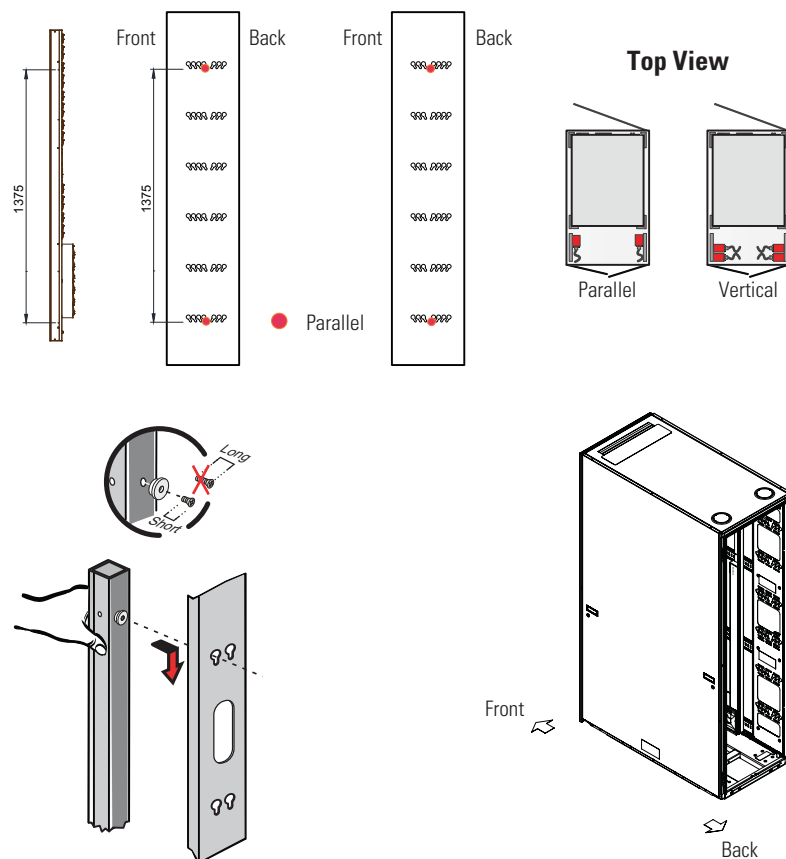

Figure 15. Lenovo Rack 9360 Mounting Button Installation
2. Position and install the buttons as shown in Figure 15.